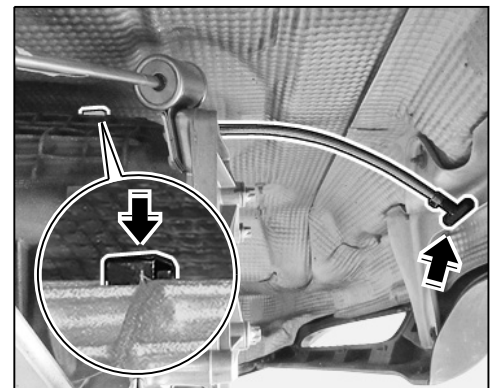

Figure 42
- 6.6 Fit fixing clip ⇒ *Figure 42-arrow-* in the pocket before the third cross strut on the transmission.